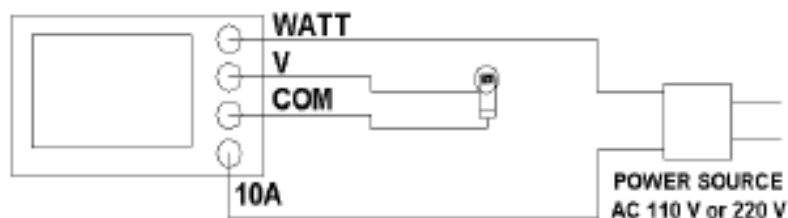

Fig. 2
Make the wire connection and connect the test leads into terminals (3-16, 3-17, 3-18, 3-19 – Fig. 2)
6. * Connect the "LOAD" to the terminals of 3-17, 3-18, (Fig. 2)
* Connect the "Power Source" to the terminals of 3-16, 3-19 (Fig. 2)